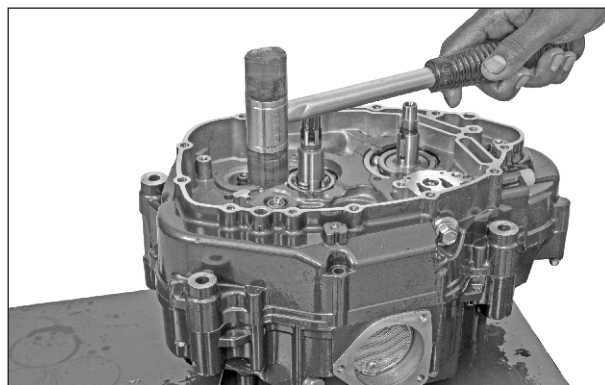

Fig. 3.188
- Assemble the crankcase assembly RH to the crankcase assembly LH by gently tapping. (Fig. 3.188)